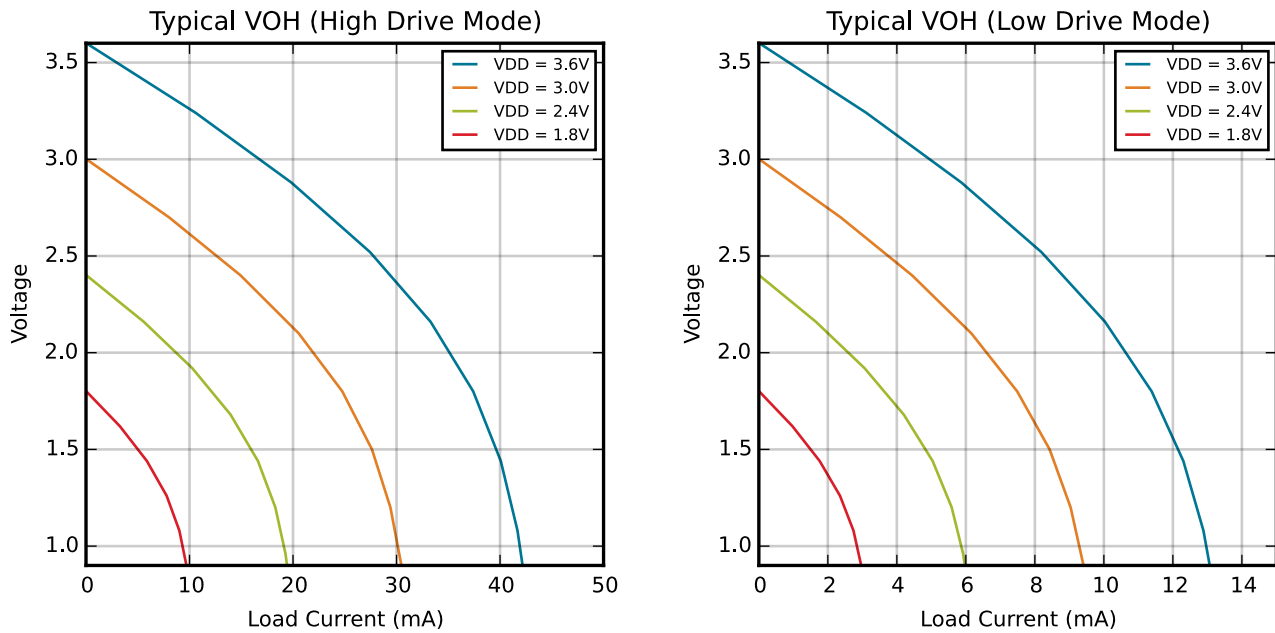
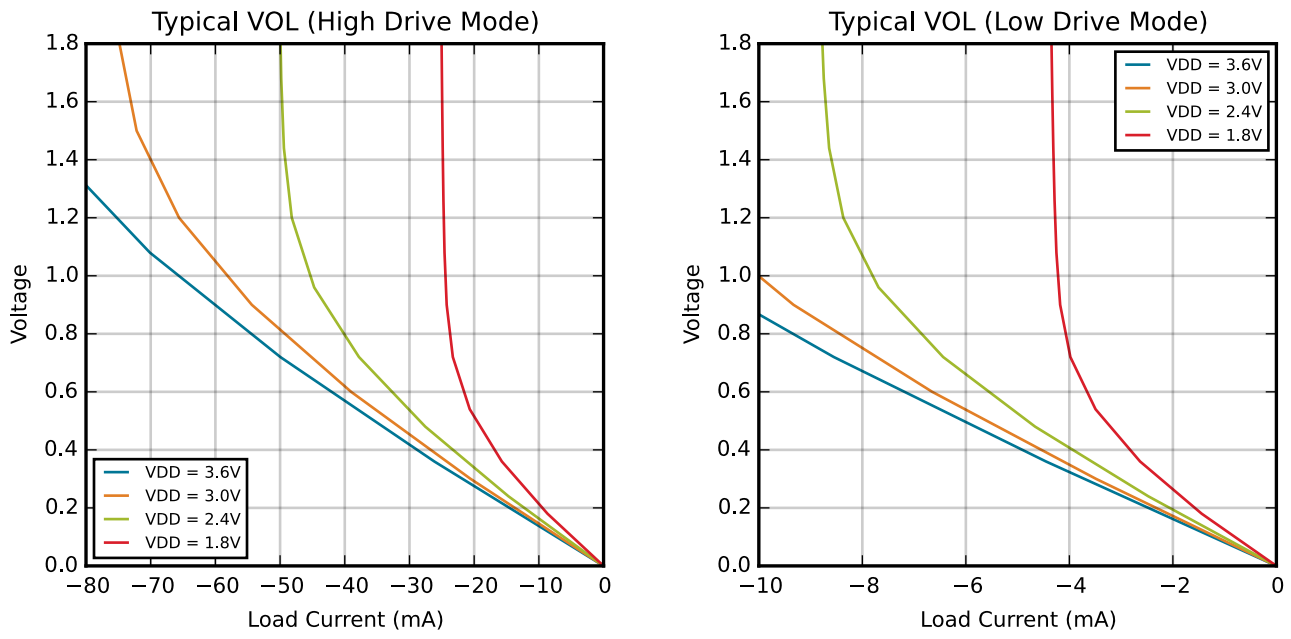

Figure 4.3. Typical  $V_{OH}$  Curves
Figure 4.4. Typical  $V_{OL}$  Curves
1. See Figure 4.3 Typical VOH Curves on page 29 and Figure 4.4 Typical VOL Curves on page 30 for more information.